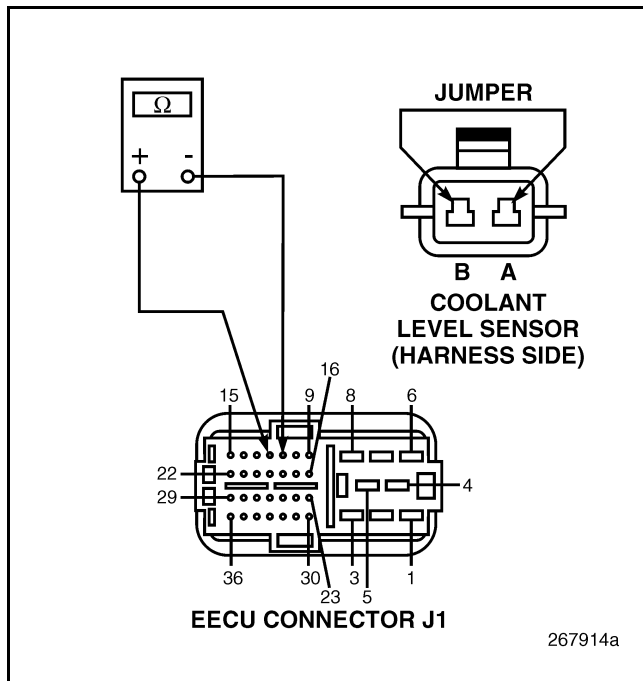

Figure 114
4. Check for continuity between Engine Electronic Control Unit (EECU) connector J1 pins 11 and 12 (see Figure 114).